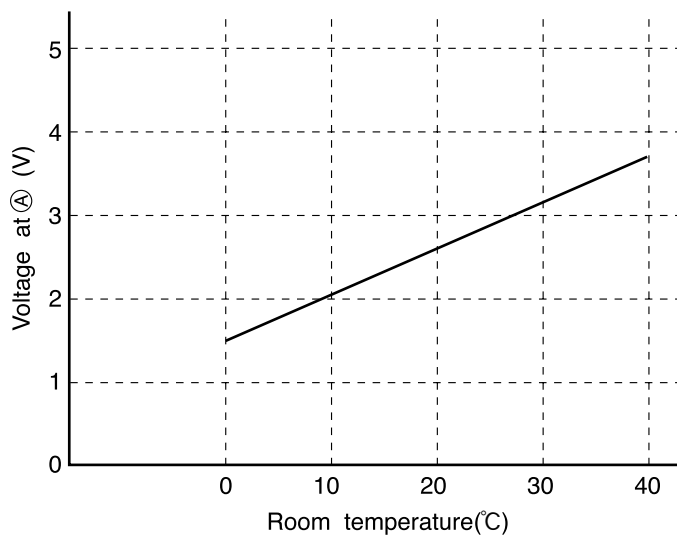

Fig. 5-2
The Voltage at ① depends on the room temperature as shown in Fig. 5-2